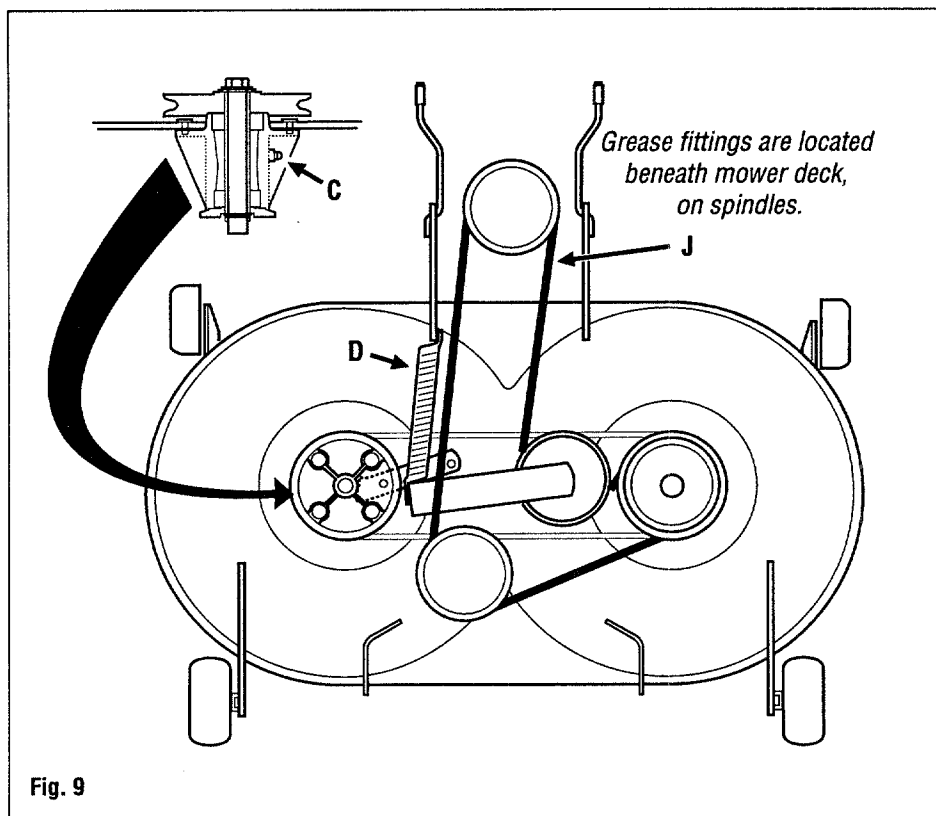
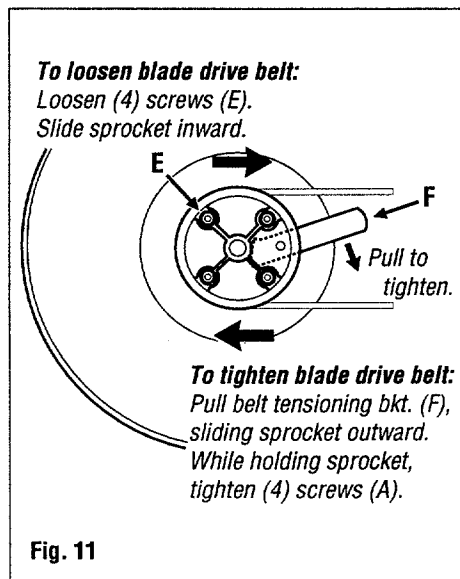

Fig. 9
Fig. 11
1. Lubricate gage wheels (D, Fig. 9) and anti-scalp wheels (E) with oil every 100 operating hours or twice yearly.
2. Remove spring (D, Fig. 9). Remove attachment/PTO drive belt (J).
3. Loosen screws (E, Fig. 11) and push sprocket in (toward center) to free blade drive belt.
6. Tighten belt by pulling belt tensioning bracket (F) rearward. This slides sprocket outward.
7. When belt is tight (deflection of 1/4"), hold sprocket and tighten screws (E).
8. Re-install attachment/PTO drive belt (J, Fig. 9) and re-install spring (D).